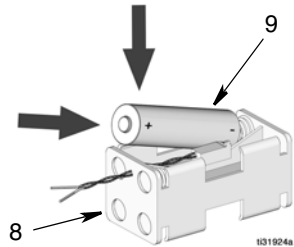

FIG. 10
3. Remove all four AA batteries from the battery holder (8). Discard batteries in an approved battery disposal container.
4. Install four, AA, alkaline batteries (9) in the battery holder (8) as shown in FIG. 10. Make sure batteries lie flat in holder.